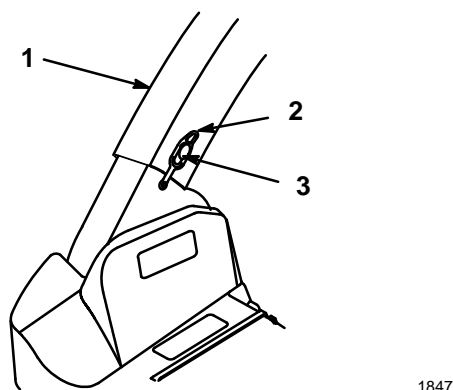

Figure 26
2. Insert the upper end of the discharge tube into the bagger top. Slide the lower end of the discharge tube over the blower opening (Fig. 26).
3. Hook the rubber latch over knob (Fig. 26).